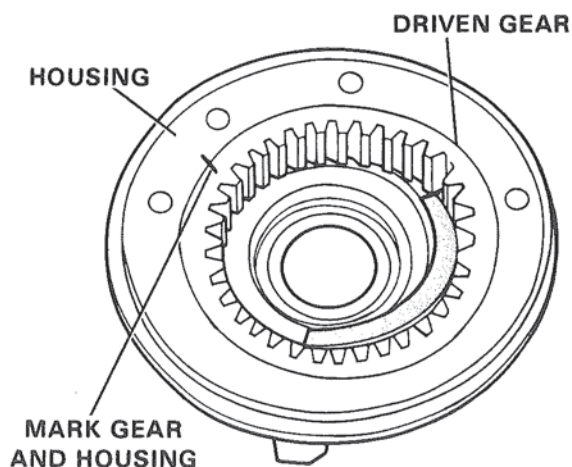
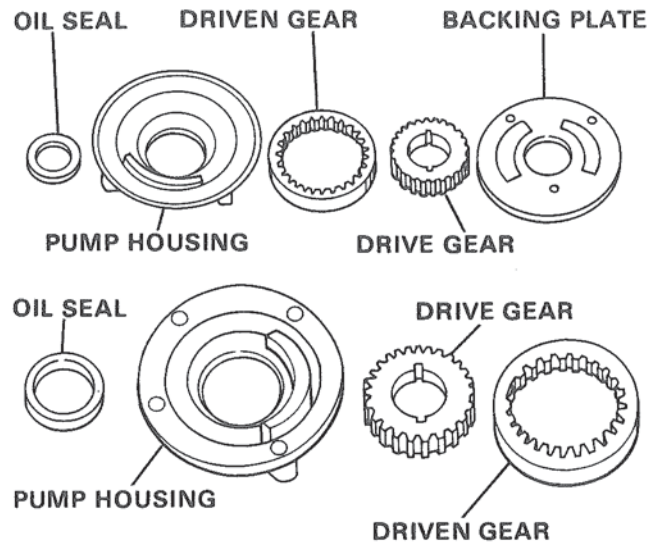

Figure 11. Marking Pump Gear Alignment.
Figure 12. Front Pump Parts.
4. Mark gears to identify for proper relocation of gear faces during reassembly. Figure 11. Figure 12 shows views of the different front pump parts when completely disassembled.